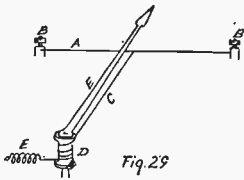

Fig. 29
**A**MMETERS are instruments designed to measure the flow of electricity through the wires and are often very essential parts of a radio outfit. They consist, as far as exterior appearances go, of a dial marked with figures and a hand or needle. Although they are not high priced and it is not advisable to try to make them, still there is nothing mysterious or complicated about them and the amateur, who likes to experiment with home-made instruments, can readily construct an ammeter which will work and is fairly reliable. This instrument is known as a "hot-wire ammeter" (Fig. 29), and consists of a fine platinum wire *A*, secured between two fixed supports *B, B*, a thread *C*, fastened to the centre of the wire and passed around a spool or spindle *D*, a spring attached to the end of the thread *E*, and a pointer or hand fastened immovably to the top of the spindle *F*. The electrical connections are